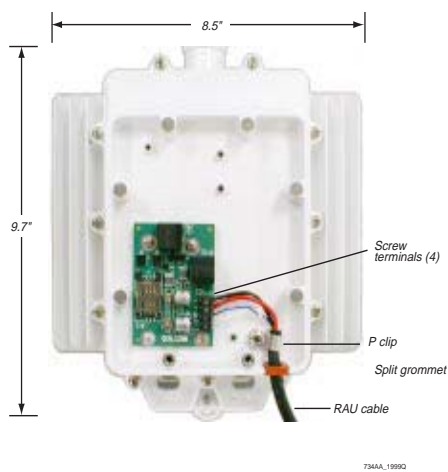

Figure 7. RAU with cover removed
3. Remove the grommet at the bottom right of the RAU and slip it over the free end of the cable at the end near the connectors, as shown in Figure 7.